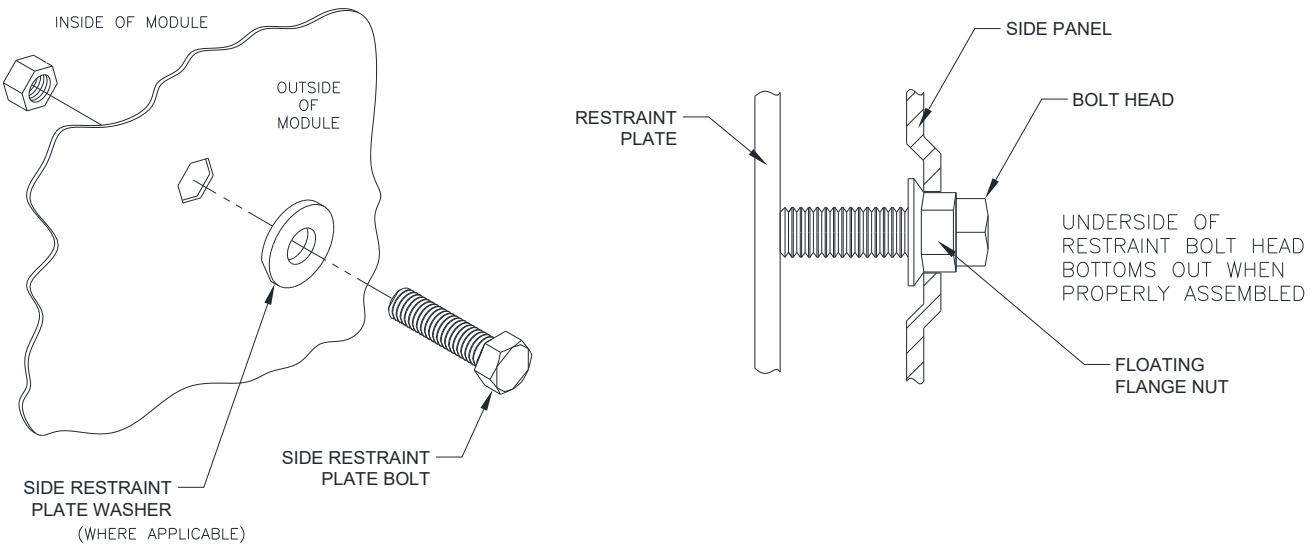

Figure 6-4A Floating Flange Nut Detail
2. Prior to cell insertion assemble the two (2) side restraint plate bolts and washers (when required) into the floating flanged nuts through the hex-shaped recessed holes on the right side of the modules (or both sides for the 45”, 49” and 58” wide modules); Ref Figure 6-4A, Flange Nut Detail). Do not completely tighten the bolt/washer/nut assemblies at this time.